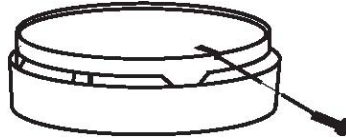

Figure 3: *Tamper Resistant Locking Pin*
- 6.7 To make your carbon monoxide alarm tamper resistant, a locking pin has been provided in the bag with the screws and anchors. Using this pin will deter children and others from removing the alarm from the mounting plate. To use the pin insert it into the hole in the side of the alarm after the alarm has been installed on the mounting plate (See Figure 3). Note the tamper resist pin will have to be removed in order to change the battery; this can be done easily with a long nose pliers. Using the long nose pliers pull the pin out of the hole, it is now possible to remove the alarm from the mounting plate.
- 8.2. To clean your alarm, remove it from the mounting bracket as outlined in Figure 2 Step D: Installation/Removal. IF TAMPER RESISTANT PIN HAS BEEN USED, REFER TO STEP 6.7 UNDER INSTALLATION INSTRUCTIONS FOR REMOVAL INSTRUCTIONS. (See Figure 3)
NOTE: IF TAMPER RESISTANT PIN HAS BEEN USED, REFER TO STEP 6.7 UNDER INSTALLATION INSTRUCTIONS FOR REMOVAL INSTRUCTIONS. (See Figure 3)